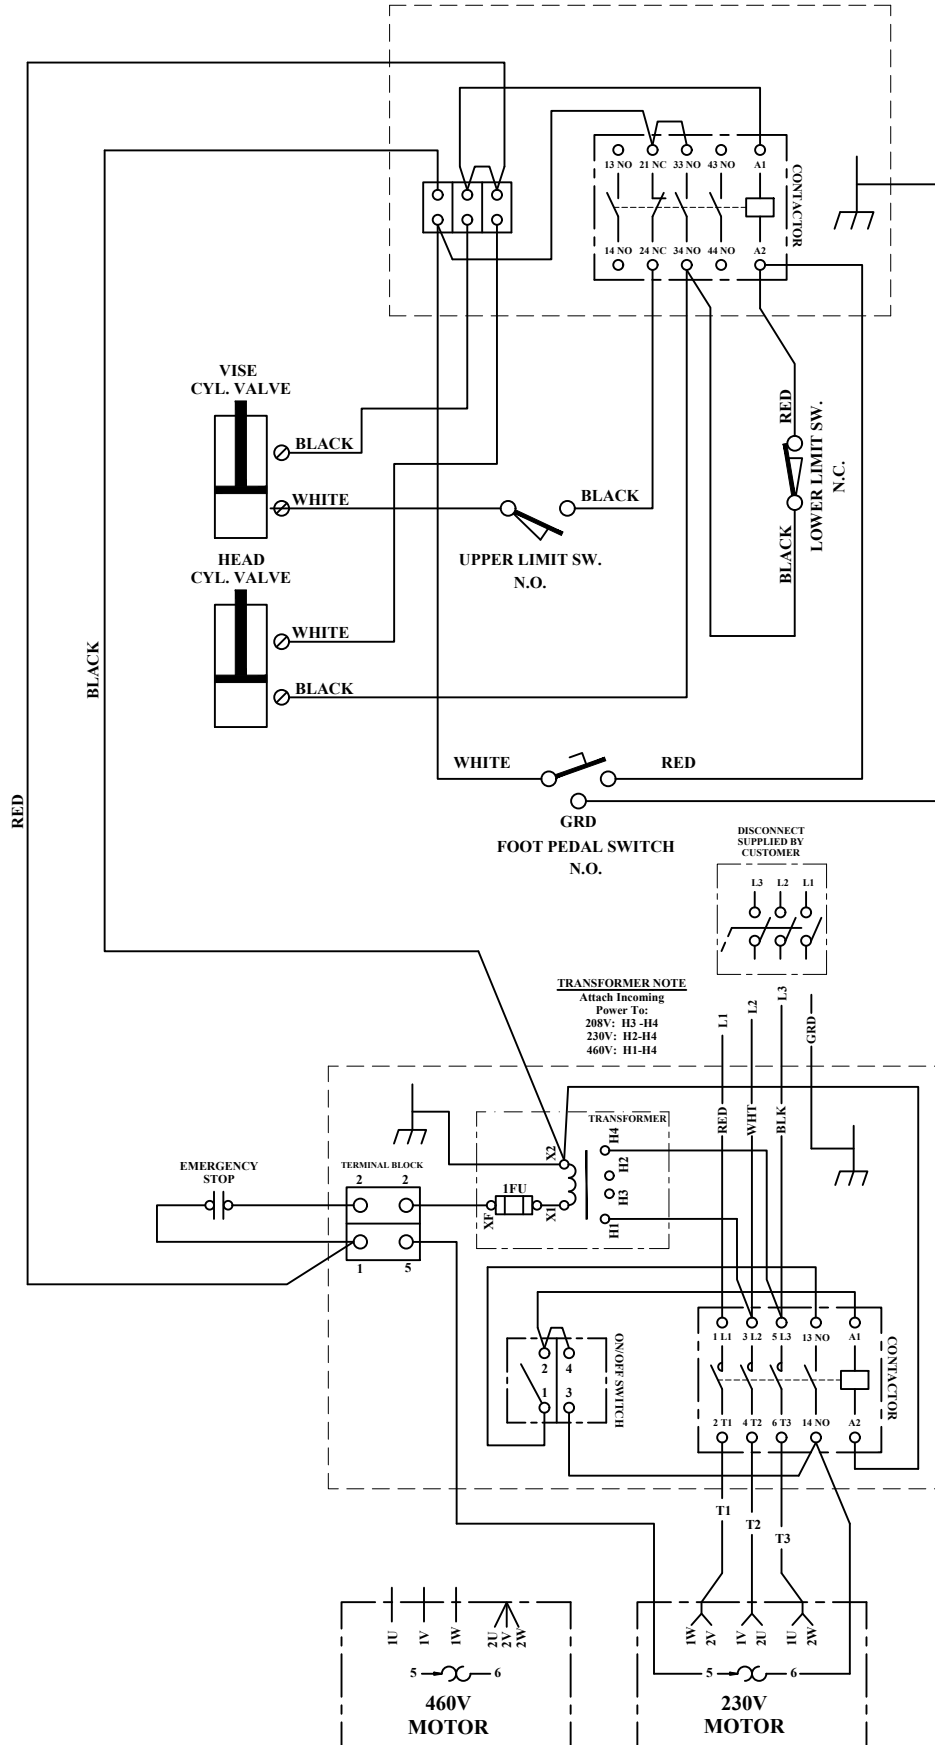

FIGURE 3-2
► **NOTE: SEE FIG. 3-2 FOR COMPLETE PD SAW WIRING SCHEMATIC. SECTION 7.10 HAS A SCHEMATIC OF THE PD SYSTEM ON ITS OWN.**